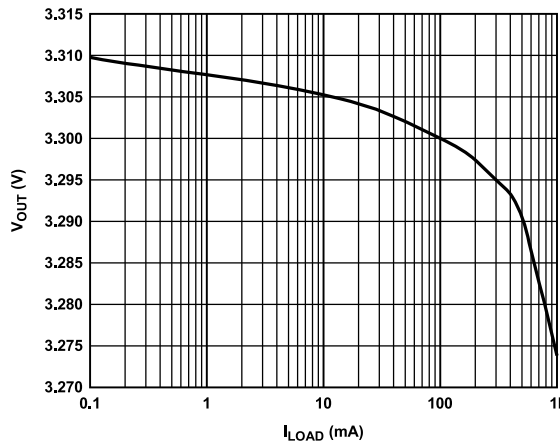

Figure 11. Output Voltage (V_{OUT}) vs. Load Current (I_{LOAD})
- ² Based on an end-point calculation using 10 mA and 1 A loads. See Figure 11 for typical load regulation performance for loads less than 10 mA.